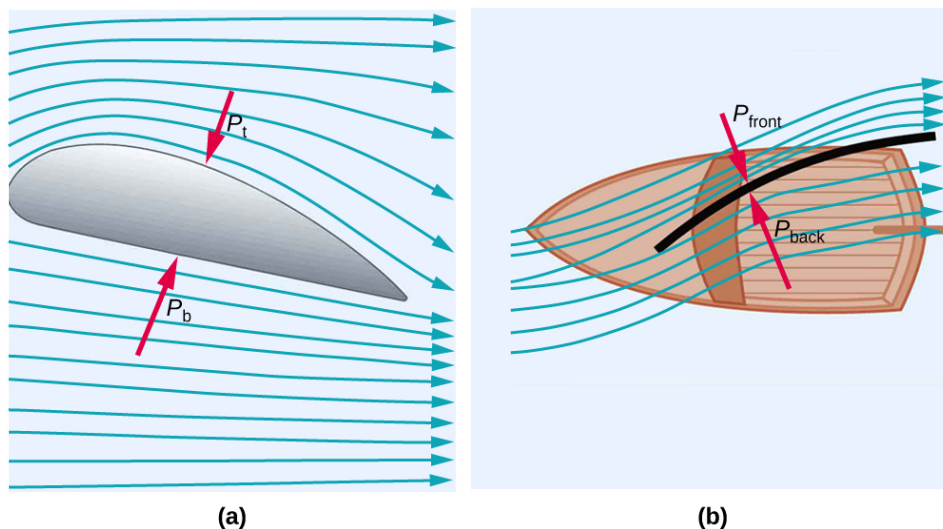

Figure 12.6 (a) The Bernoulli principle helps explain lift generated by a wing. (b) Sails use the same technique to generate part of their thrust.
**Wings and Sails** The airplane wing is a beautiful example of Bernoulli's principle in action. Figure 12.6(a) shows the characteristic shape of a wing. The wing is tilted upward at a small angle and the upper surface is longer, causing air to flow faster over it. The pressure on top of the wing is therefore reduced, creating a net upward force or lift. (Wings can also gain lift by pushing air downward, utilizing the conservation of momentum principle. The deflected air molecules result in an upward force on the wing — Newton's third law.) Sails also have the characteristic shape of a wing. (See Figure 12.6(b).) The pressure on the front side of the sail,  $P_{\text{front}}$ , is lower than the pressure on the back of the sail,  $P_{\text{back}}$ . This results in a forward force and even allows you to sail into the wind.